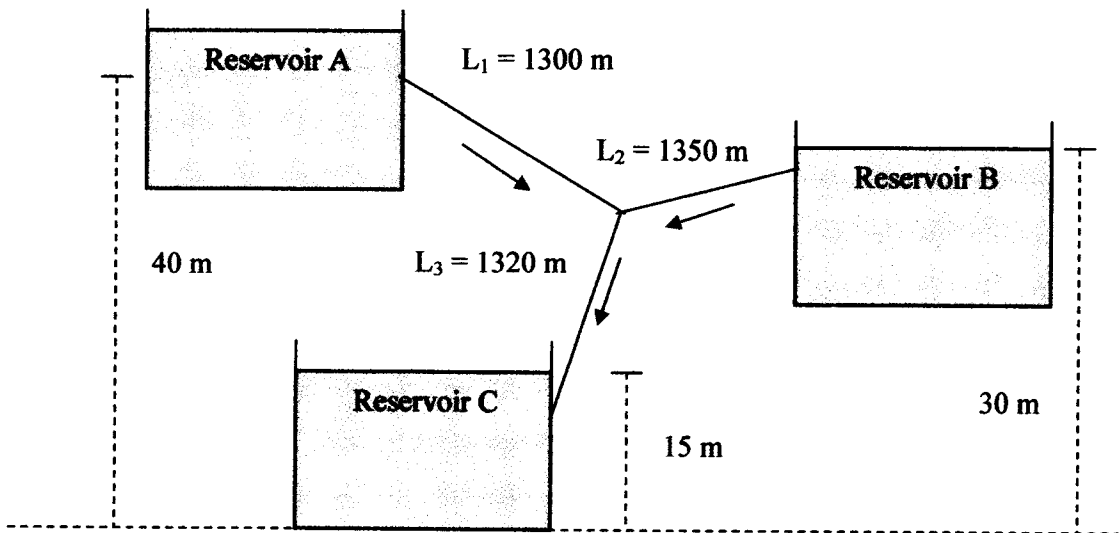

Figure Q3 (b)/ Rajah S3 (b)
- (b) Three reservoirs connected by pipes as shown in Figure Q3 (b). The diameter for each pipe is 250 mm and assumes coefficient of friction, f is 0.001. Analyze the discharge in each pipe.